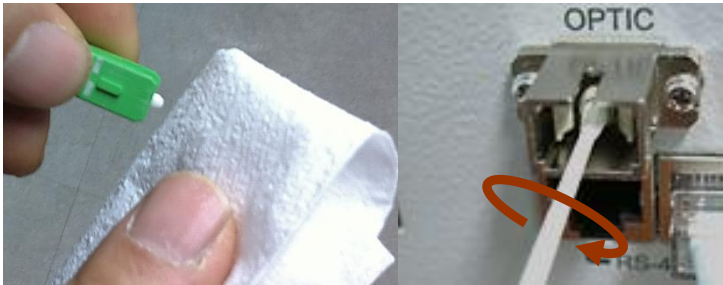

Figure 6-12 Optic Connector Cleaning (left) and Optic Port Cleaning (right)
- We recommend cleaning optic connector using a dry optical cleaning swab or tissue in a dry environment as needed. We recommend cleaning the optic connectors only if the expected optic loss is higher than the loss reported in the Web-GUI by 1.5dB_o. (Figure 6-12)